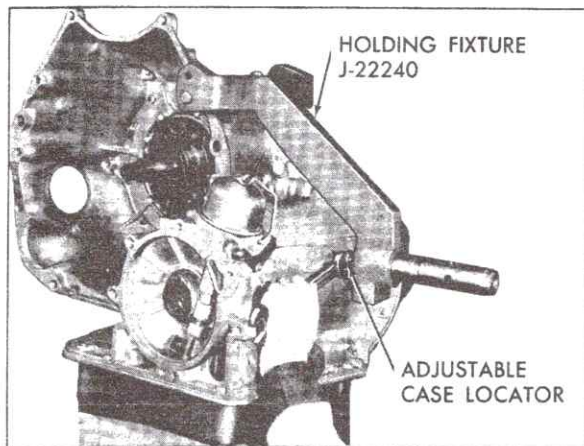

Fig. 7-136 Attaching Holding Fixture to Transmission
2. Position Transmission Holding Fixture, J-22240, to transmission, Fig. 7-136.